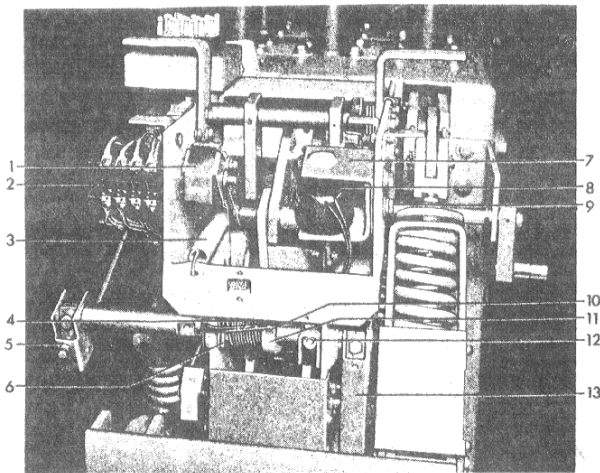

Figure 11. (8039585) Auxiliary Switch and Trip Coil
This can be adjusted by moving the trip coil support (2) and/or by adjusting the trip armature screw (12) Figure 11. A locking screw located behind the trip armature screw must first be loosened. Retighten locking screw after making adjustment.